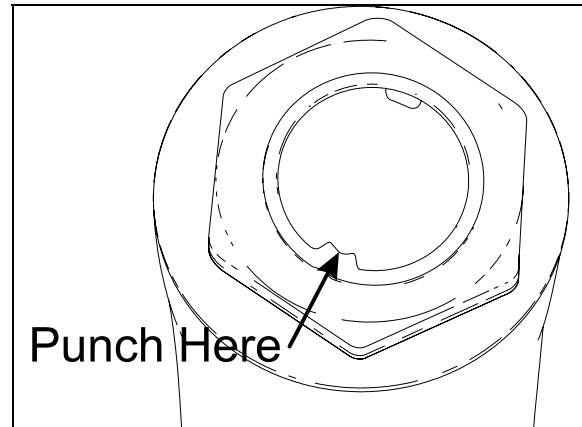

FIGURE 15: FIXING NUT PUNCH MARK
3. Lock nut with sector shaft using a punch mark into the groove (refer to figure 15).